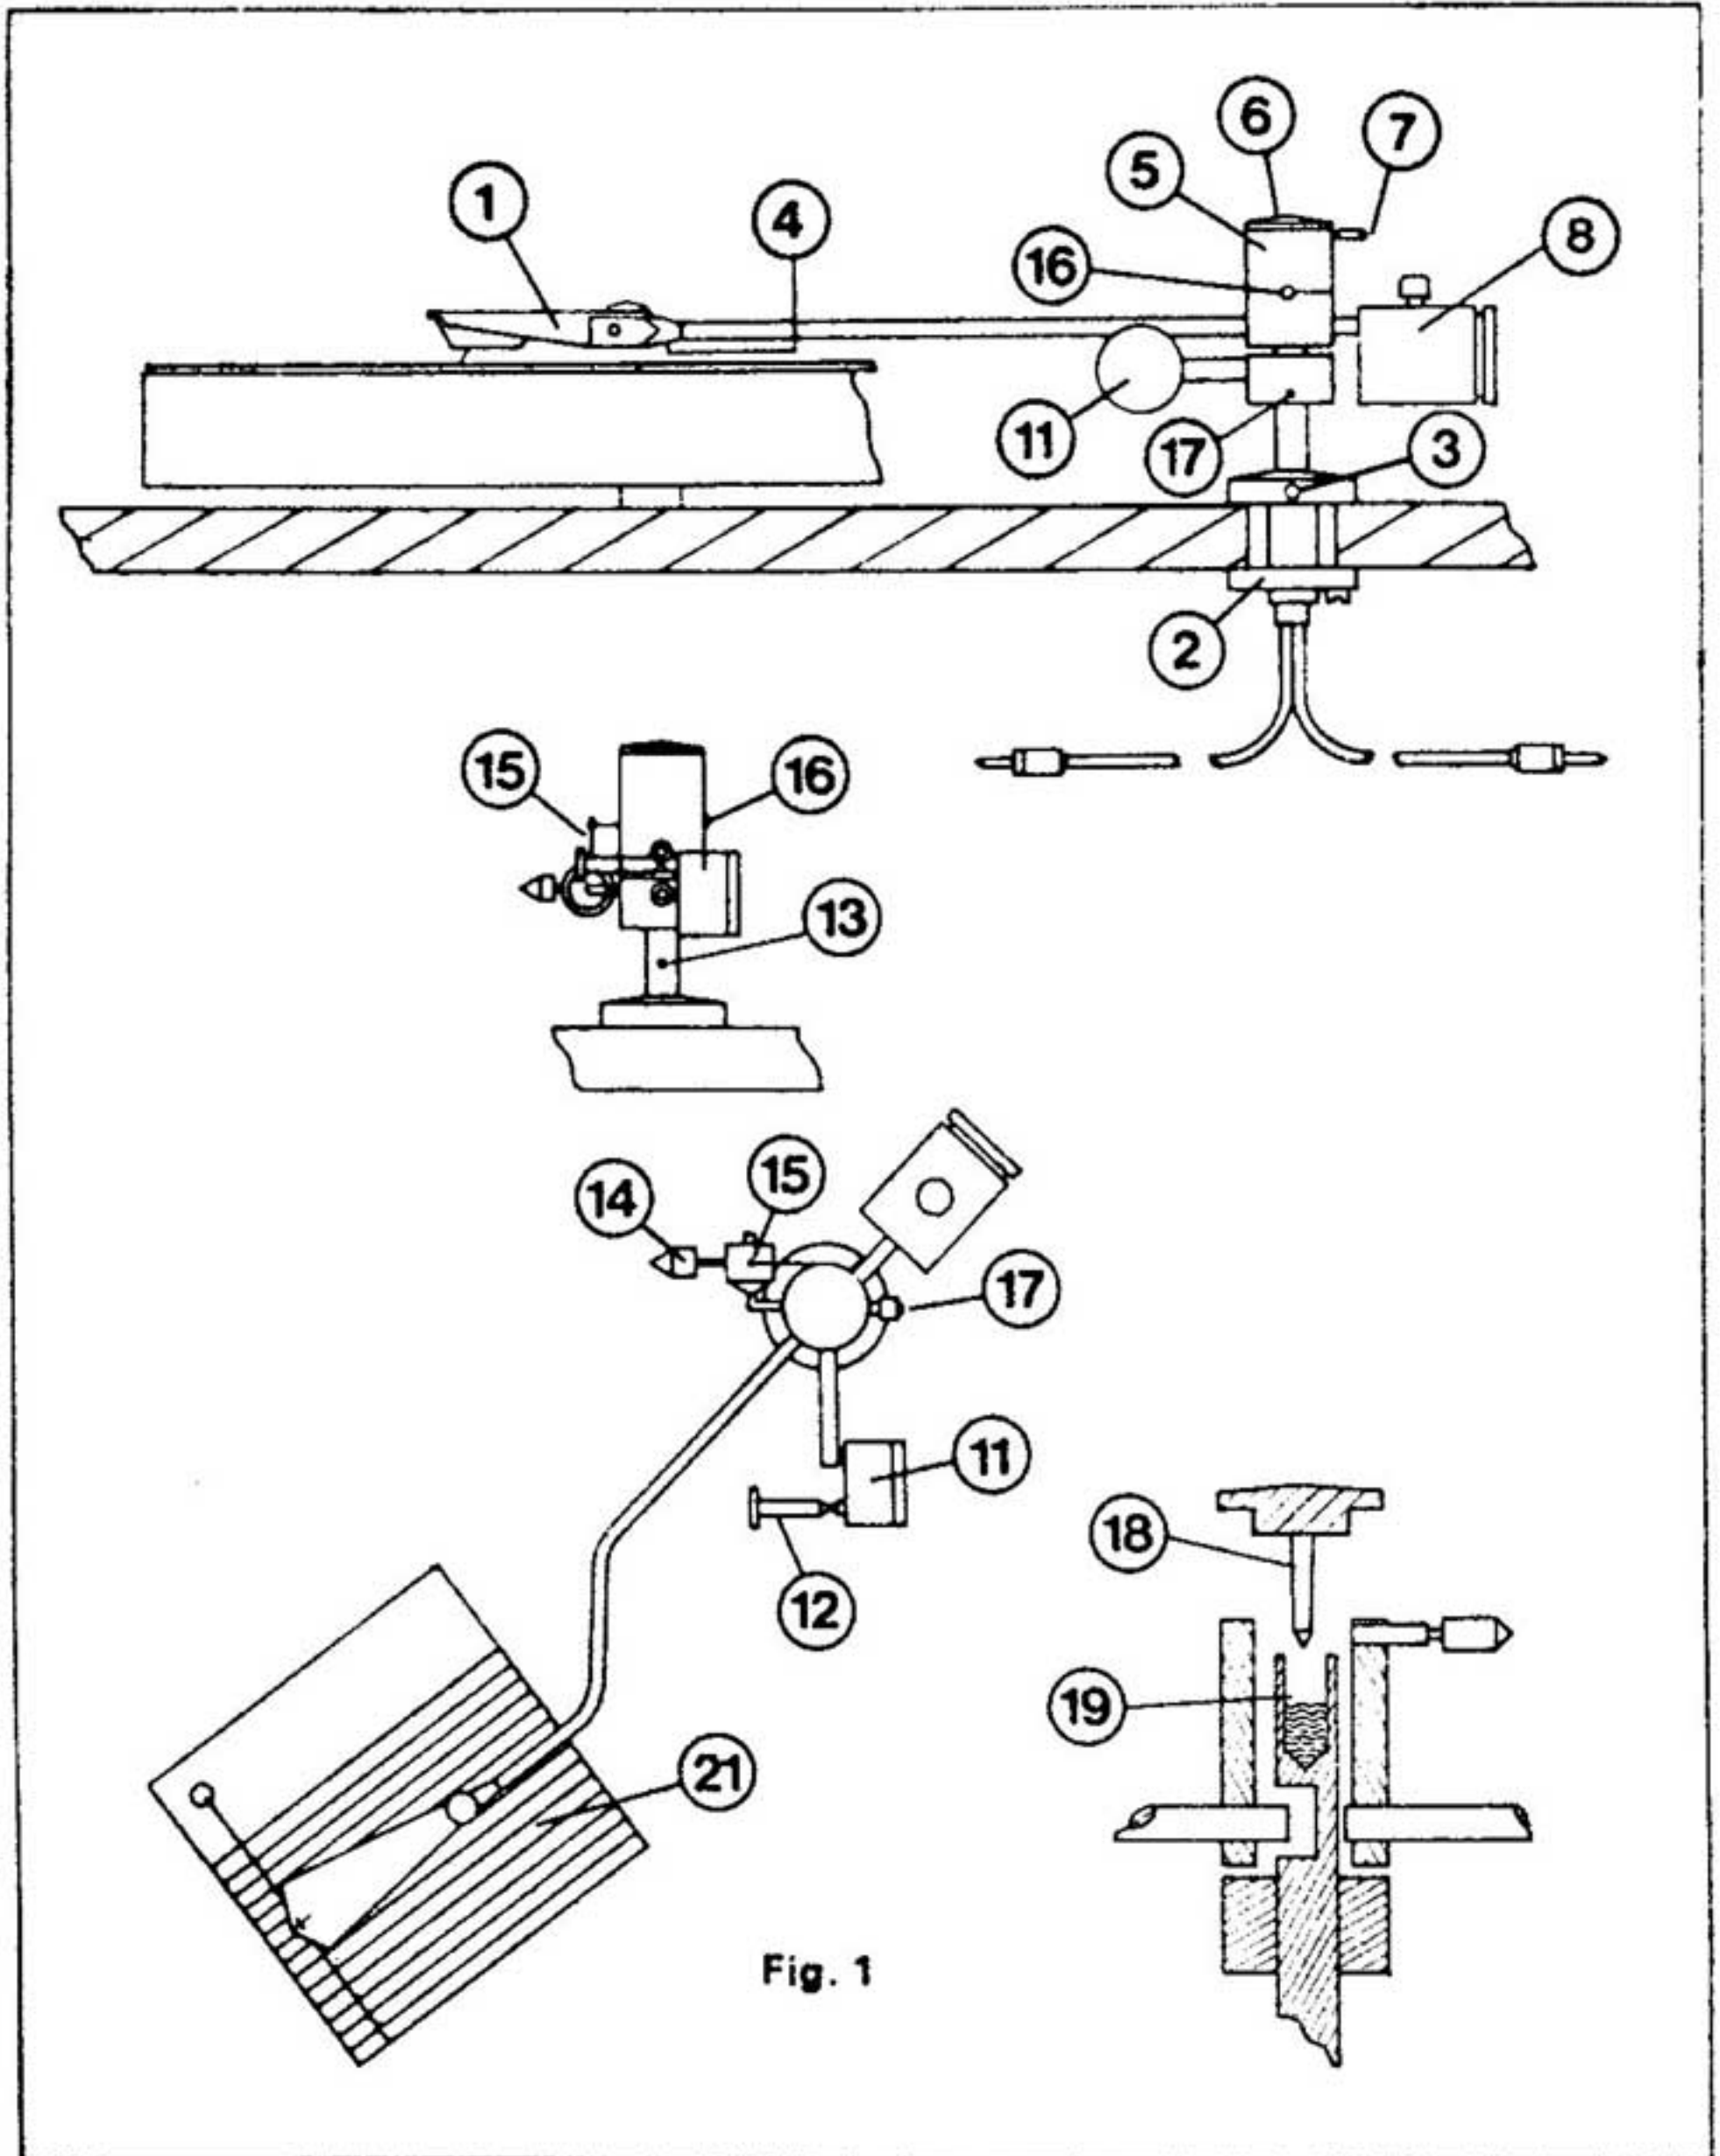

Fig. 1
- 1** Releasing the retaining nut, the headshell should be removed from the arm holding cone, fig. 1(4), carefully in one hand, using a side-to-side and easing movement with other hand. Extreme care must be exercised as damage to the internal wiring could result if force is used. Remove all transit rubber bands.
- 2** Release thumbscrew, fig. 1(7), and remove helmet cap and pivot assembly. From the small tube supplied, fill the well of the support tube to approximately halfway, fig. 1(19). Refit cap and pivot securely.
- 3** The bias assembly is positioned by using cotton thread tied to the split pin and following a path around the back of the helmet to the small slotted screw. The angle of the bias weight should be set as in fig. 1(15) with the arm in a parked position.
- 8** Place the template over the centre spindle of turntable platter, and, after slackening thumbscrew, fig. 1(17), move arm across and place stylus tip on point indicated. The lines of the template
and the headshell must run parallel to each other to ensure minimum tracking error. To correct any misalignment, slacken, with the aid of a suitable piece of $\frac{1}{8}$ in. (3 mm) rod or small screwdriver, the lower base nut using one of the holes for this purpose. The arm can now be moved until the correct alignment is achieved. Relock the arm, ensuring that the centre dot mark, fig. 1(13), on the support tube is facing the front of deck. At this stage the arm height can be set, using the lock screw, fig. 1(3), to ensure that the arm tube runs parallel to record, when in the playing position.
- 9** Should the need arise, there is provision to make lateral adjustments to the headshell assembly. The small grub screw, fig. 1(4), underneath the aluminium cone can be slackened and the assembly moved until the stylus plays in an upright position. This adjustment should not be made unless necessary, i.e. helmet and stylus must both be in vertical modes.
The whole lifting and cueing assembly, swings around the support tube, and a degree of damping is provided by applying the required tension to the thumbscrew, fig. 1(17).